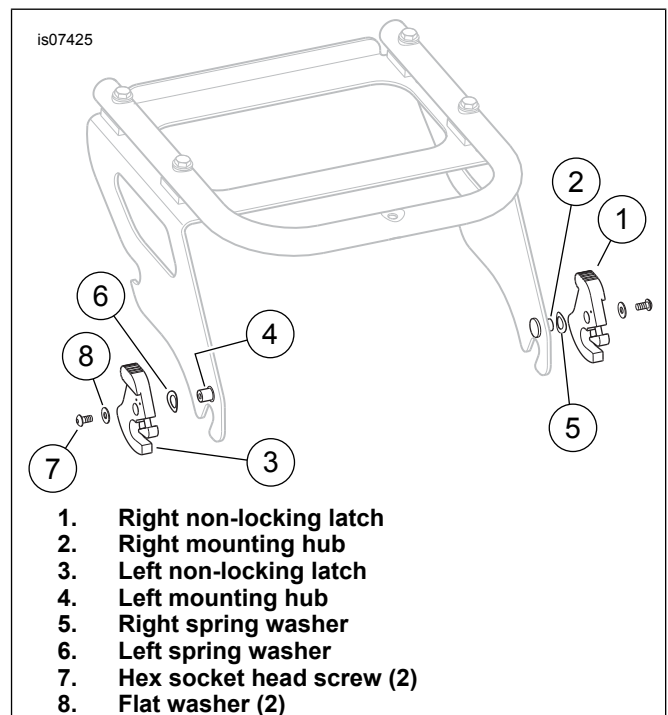
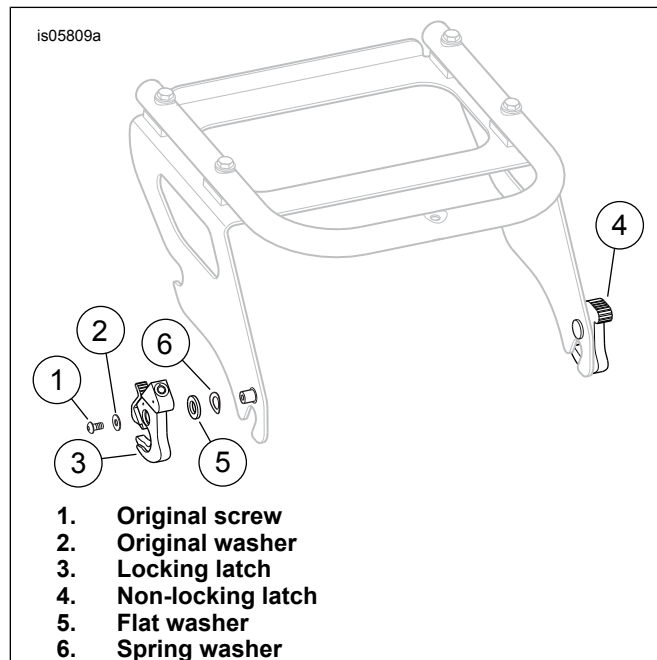

Figure 1. Latch Swap (Before Swap Configuration Shown)
Figure 4. Outer Left Installation
1. See Figure 1. Remove right non-locking latch (1). Leave right spring washer (5) on right mounting hub (2).
2. Remove left non-locking latch (3). Leave left spring washer (6) on left mounting hub (4). Install left non-locking latch (3) on right mounting hub (2).
3. Install right non-locking latch (1) on left mounting hub (4).
Solo Tour-Pak Rack	See Figure 1, Latch Swap AND Figure 4, Outer Left Installation
1. See Figure 4. Remove left non-locking latch and discard.
2. Install flat washer (5) from kit over spring washer on left mounting hub.
3. Install locking latch (3) on left mounting hub with relief **away** from the sideplate.
4. Install original screw (1) and washer (2).